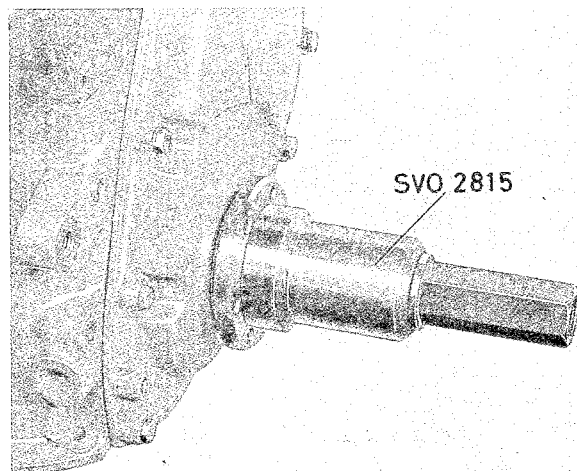

Fig. 2-30. Installing polygon hub
5. Fit the polygon hub with tool 2815, see Fig. 2-30.